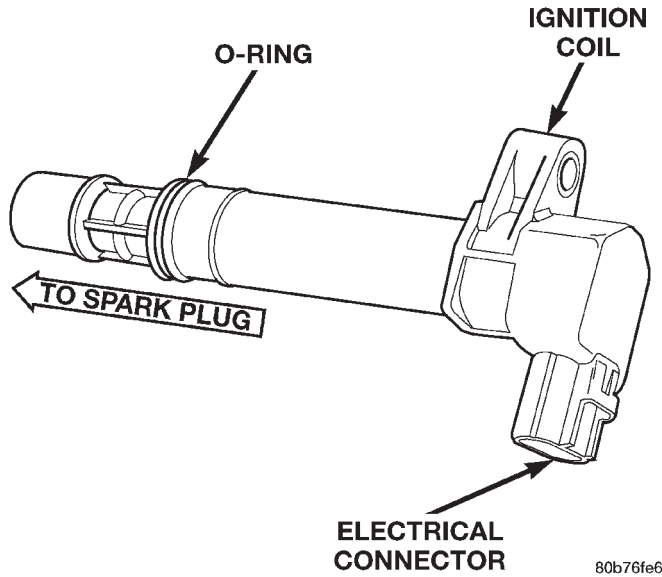
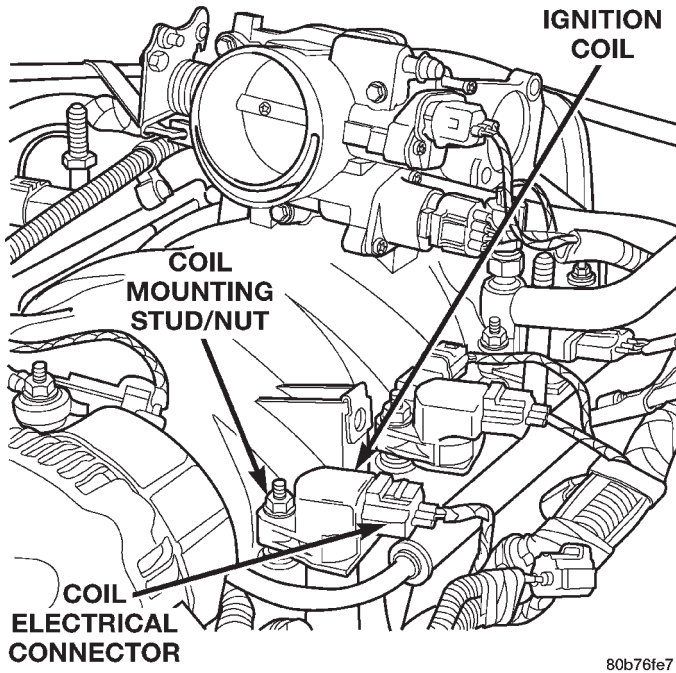

Fig. 27 Ignition Coil—4.7L V-8 Engine
Fig. 28 Ignition Coil Location—4.7L V-8 Engine
An individual ignition coil is used for each spark plug (Fig. 27). The coil fits into machined holes in the cylinder head. A mounting stud/nut secures each coil to the top of the intake manifold (Fig. 28). The bottom of the coil is equipped with a rubber boot to seal the spark plug to the coil. Inside each rubber boot is a spring. The spring is used for a mechanical contact between the coil and the top of the spark plug. These rubber boots and springs are a permanent part of the coil and are not serviced separately. An o-ring (Fig. 27) is used to seal the coil at the opening into the cylinder head.
- (1) Depending on which coil is being removed, the throttle body air intake tube or intake box may need to be removed to gain access to coil.
- (2) Disconnect electrical connector (Fig. 28) from coil by pushing downward on release lock on top of connector and pull connector from coil.
- (3) Clean area at base of coil with compressed air before removal.
- (4) Remove coil mounting nut from mounting stud (Fig. 28).
- (5) Carefully pull up coil from cylinder head opening with a slight twisting action.
- (6) Remove coil from vehicle.